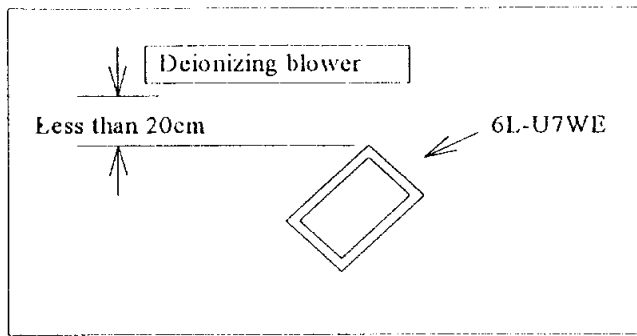

Fig. 1
- The deionizing blower should be oriented a little downward. Keep it within  $20\text{ cm}$  of the LCD panel. (see Fig. 1)